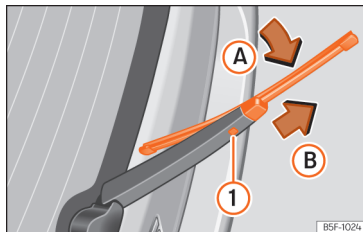

Fig. 191 Changing the rear wiper blade
- Rotate the blade lightly >>> **Fig. 191** (arrow **A**).
- Hold down the release button ① while gently pulling the blade in the direction of arrow **B**.
- Insert a new blade of the **same length and type** in the rear wiper arm in the opposite direction to the arrow **B** until button ① hooks into place.